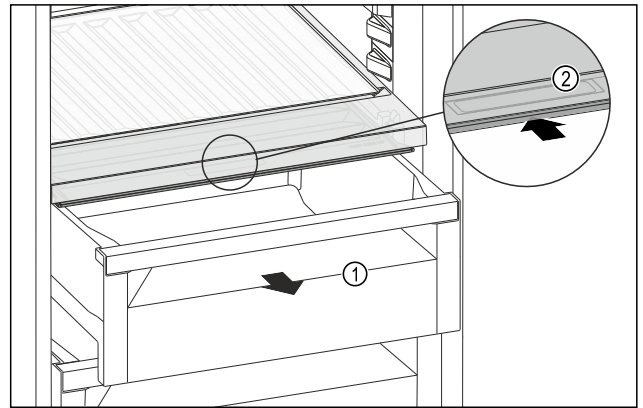

Fig. 175
- Pull out the drawer *Fig. 175 (1)*.
- Grasp the recessed grip *Fig. 175 (2)* on the compartment lid and push the compartment lid backwards at the same time.